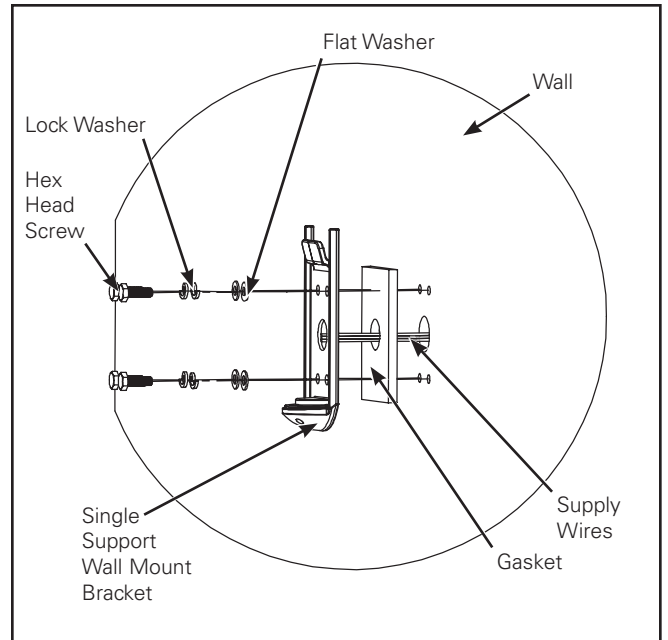

Figure 19.
1. Using wall mount plate as template, drill four holes in the wall (Figure 19). Install appropriate wall anchors (not provided). Silicone caulk around the junction box and wall anchors.